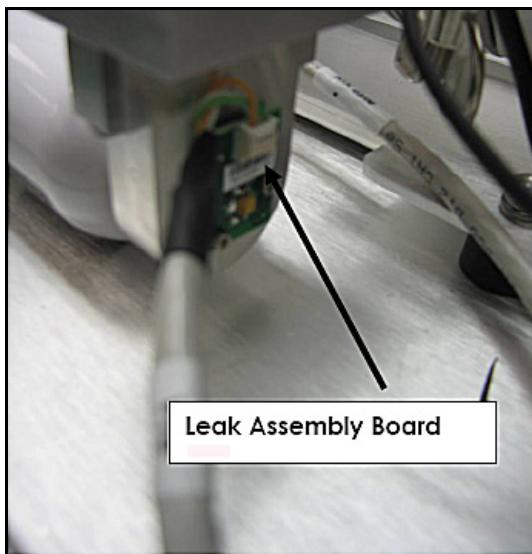

Figure 5: Leak Assembly Board Connection
9. Connect the calibrated leak temperature cable end labeled P1A to the leak assembly board connector J1A (Figure 5: Leak Assembly Board Connection).